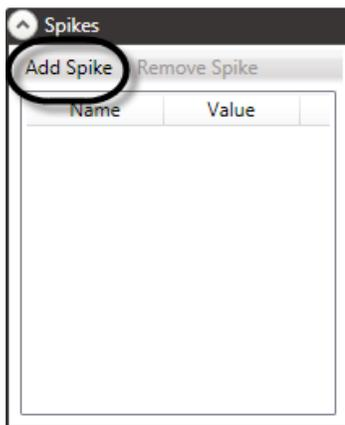

Figure 302
2. Scroll to the **Spikes** section in the **Stagehand Editing Pane** and click **Add Spike** (Figure 302).